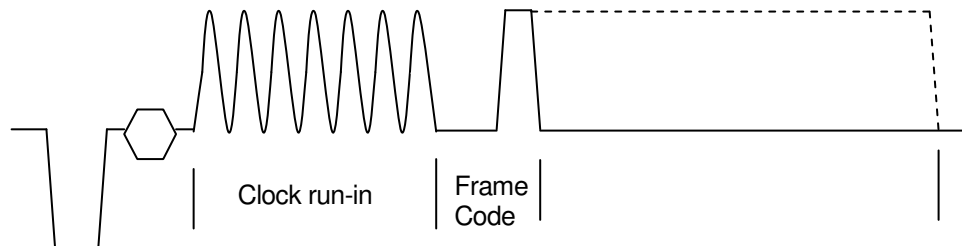

Figure 5 Typical CC/EDS scan line waveform
Closed Caption (CC) vertical blanking interval scan lines are on the odd field NTSC line 21. Extended Data Services (EDS) scan lines are on the even field NTSC line. A Closed Caption (CC) scan line on an NTSC-based system is made of 25 bit periods at a 0.503MHz rate. The data is an analog signal beginning with a packet header. It contains a Clock Synchronization Code consisting of 14 bits of double-frequency run-in clock at 1.006 MHz, a 2-bit framing code. The data of 16 bits/2 bytes follows the packet header. Each of these 2 bytes is a 7 bit + odd parity ASCII character which represents text or control characters for positioning or display control. For the purposes of CC or EDS, only the Y component of the video signal is used. Therefore, the input composite video has to go through the Y/C separation to extract Y component for further decoding. The TW8816 can be programmed to decode CC or EDS data by setting register 0x1B. Since the CC and EDS are independent, there could be one or both in a particular frame. A typical waveform is shown in Figure 5.